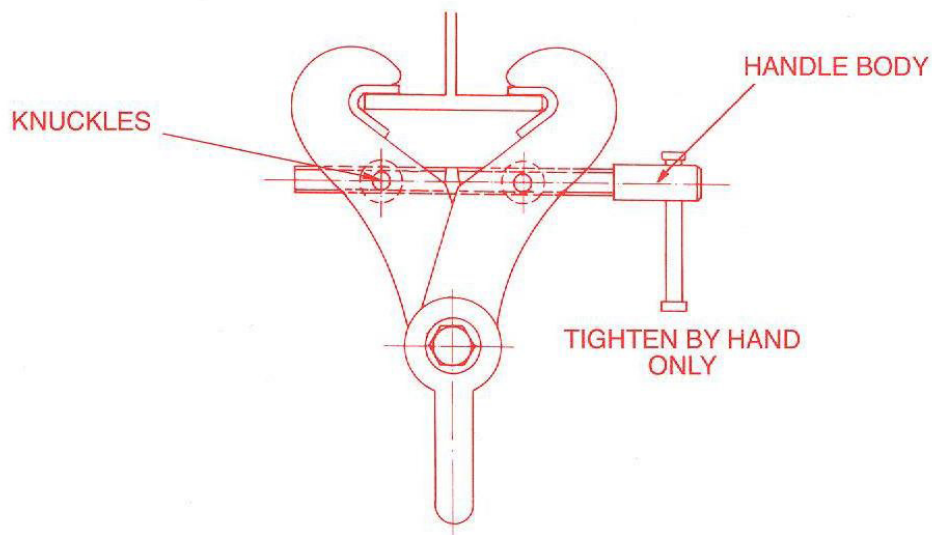

Fig 11.1
- 11.1 Beam clamps are available in two basic designs, the permanently fixed type and the more popular adjustable type. (fig 11.1)